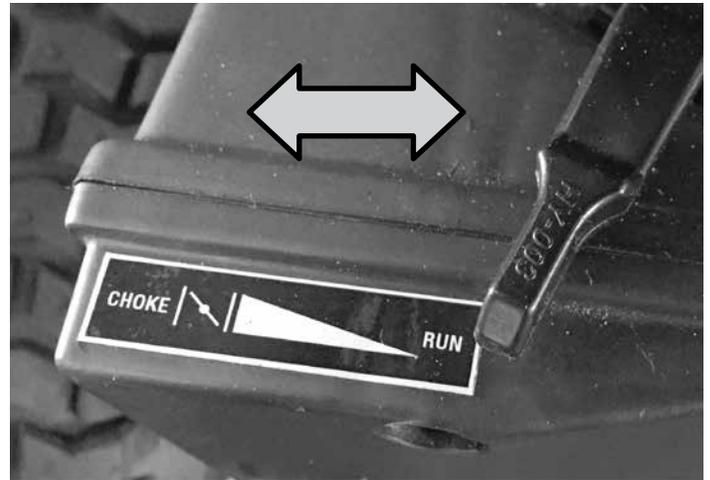

FIGURE 2
- Connect the high pressure hose to the trigger gun and pump. #4 **Per figure 2**